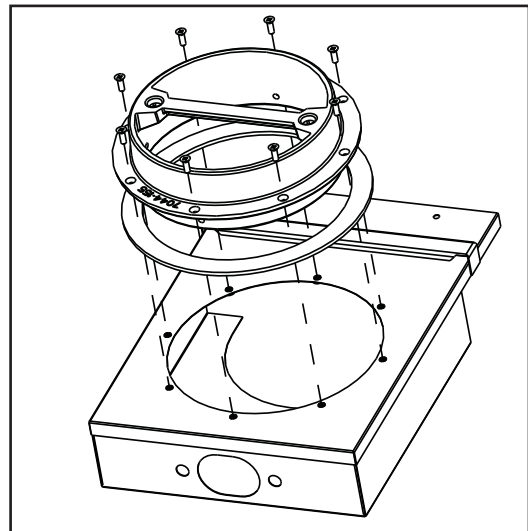

Figure 17.3
2. Slide the gasket over the flue collar and attach it to the offset adapter using the 8-32 flathead screws provided. **Figure 17.3.**